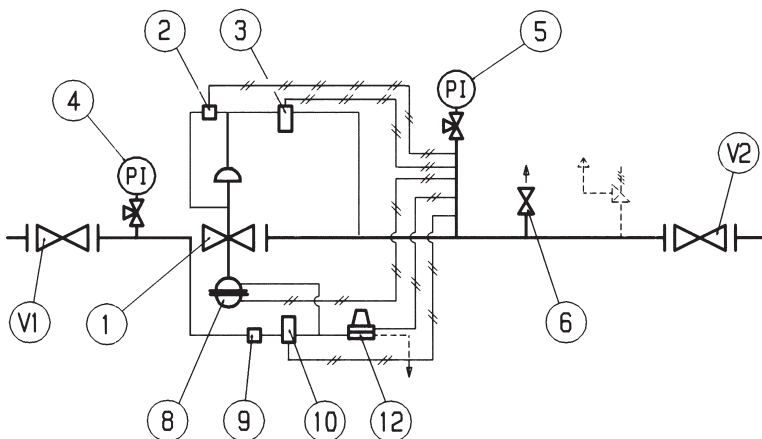

Fig. 26
5.5 COMMISSIONING THE REGULATOR WITH INCORPORATED PM/819 MONITOR AND ACCELERATING VALVE (FIG. 26)